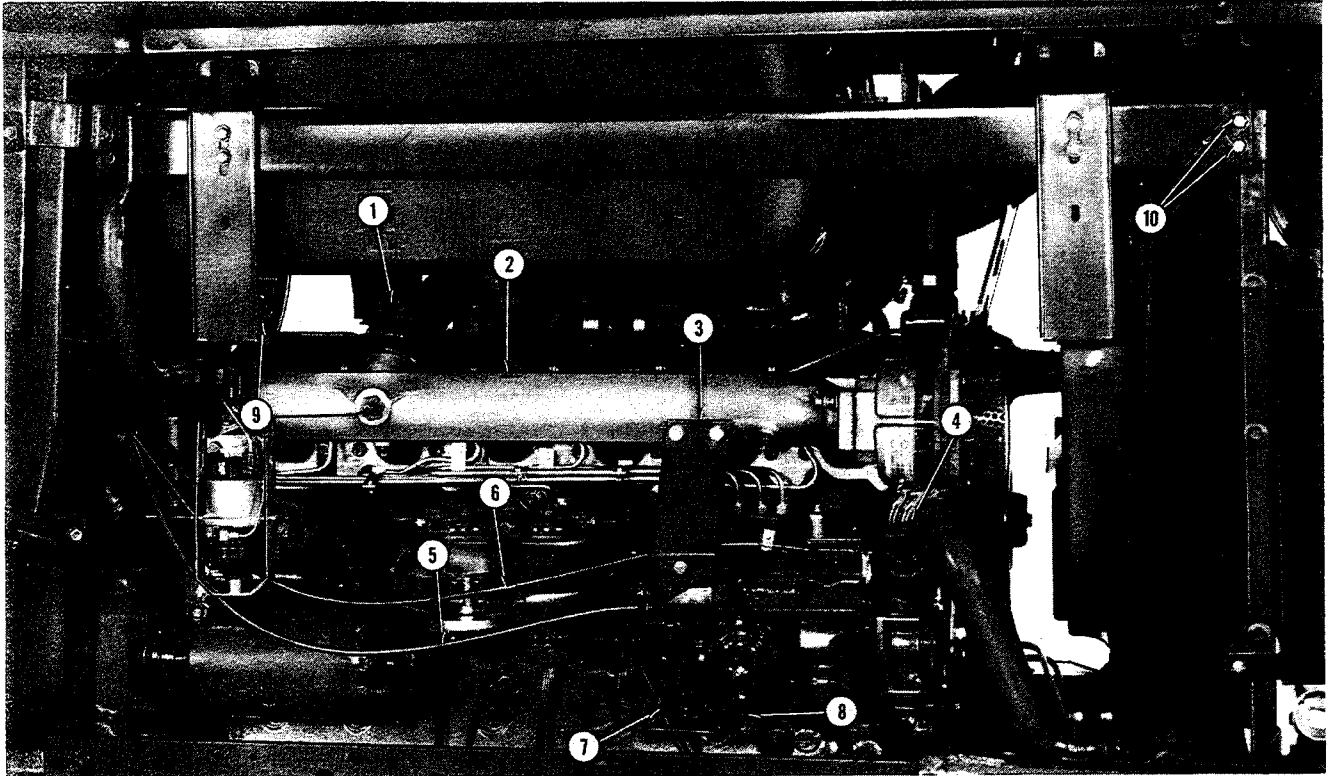

Figure 3
Air Cleaner — Remove the air intake pipe from the turbocharger to the radiator support. Remove the intake manifold hose, Figure 3.
Shut off the fuel at the main fuel tank, Figure 3.
6. Remove eight bolts that attach the main fuel tank support brackets to the tractor, Figure 3.
6. Remove 14 intake manifold bolts, the intake manifold and gasket, Figure 3.